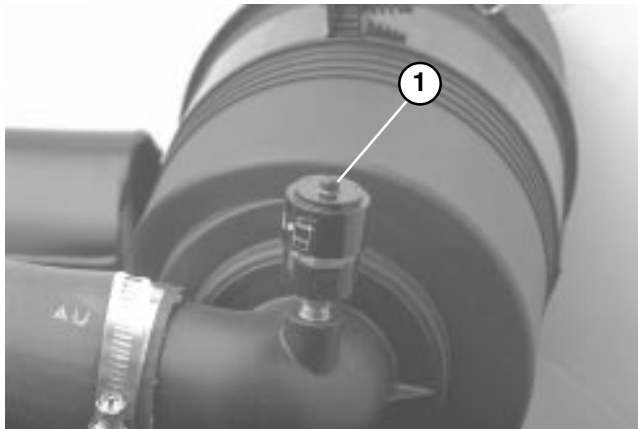

Figure 39
2. Service the air cleaner filters when ever air cleaner indicator (Fig. 39) shows red or every 400 hours (more frequently in extreme dusty or dirty conditions). Do not over service air filter.
7. Reset indicator (Fig. 39) if showing red.